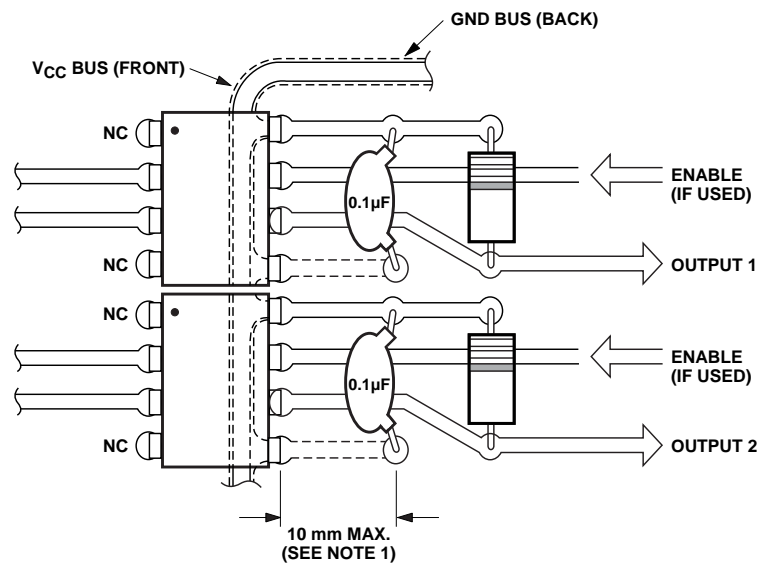

Figure 15. Recommended printed circuit board layout.
1. Bypassing of the power supply line is required, with a 0.1 μF ceramic disc capacitor adjacent to each optocoupler as illustrated in Figure 15. Total lead length between both ends of the capacitor and the isolator pins should not exceed 20 mm.